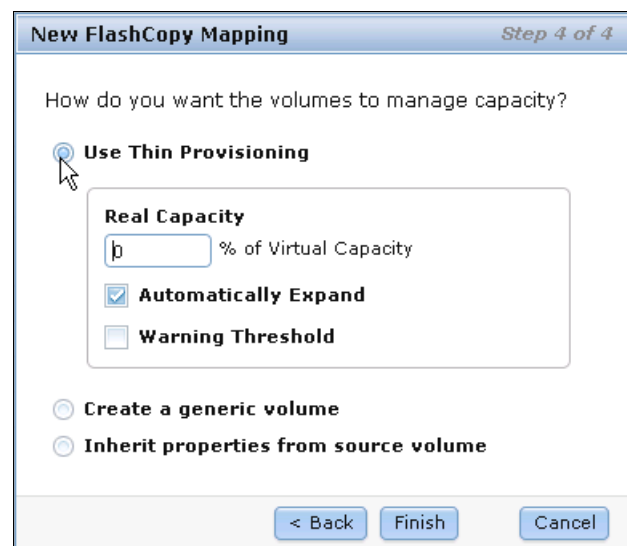

Figure 10-22 Creating a thin provisioned target volume
6. You can define how the new target volumes manage capacity. The Create a generic volume option is your default choice if you selected Clone or Backup as your basic preset. If you select a thin-provisioned volume, more options are available, as shown in Figure 10-22.